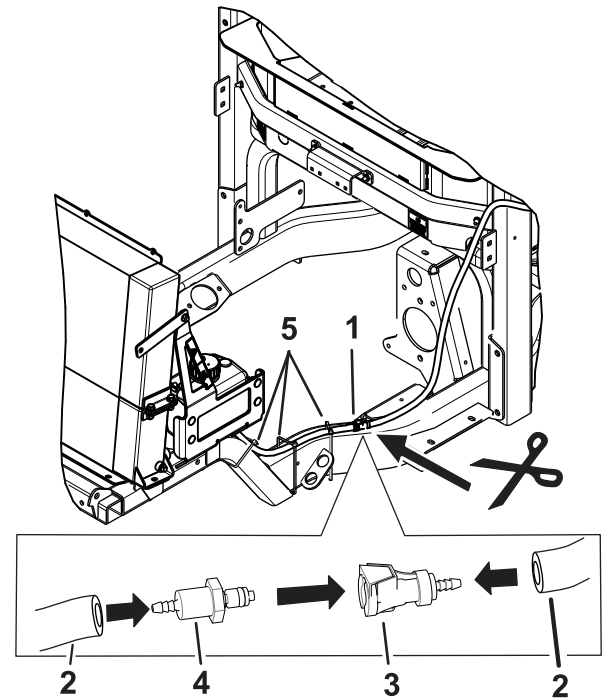

Figure 28
1. Route the hoses along the frame and back to the washer-fluid tank (Figure 28).
4. Cut the hose at the location shown in Figure 28.
5. Install the fittings as shown in Figure 28.
6. Secure the hose with plastic ties (Figure 28).